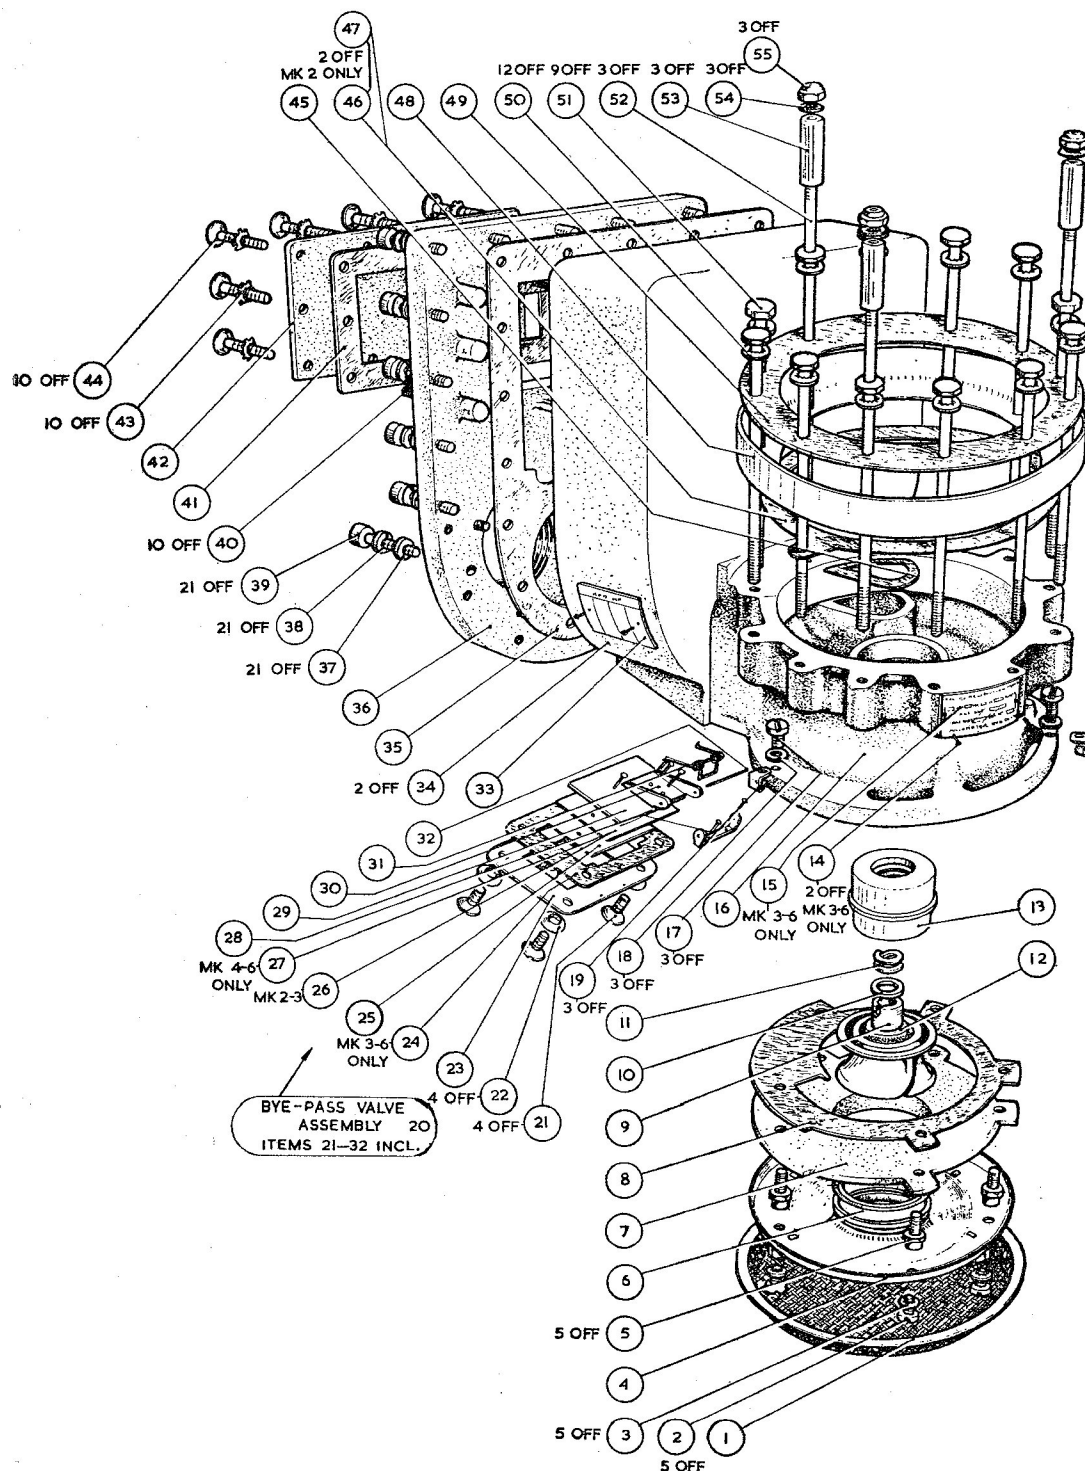

Fig. 2. Pump unit dismantled (major components)
4. The numbers in parenthesis correspond to the item numbers in fig. 2, 3 and 4. A schedule of parts is shown in Table 4.